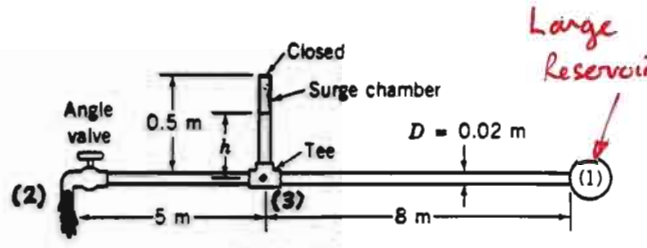

FIGURE P8.77
8.77 When the valve is closed the pressure throughout the horizontal pipe shown in Fig. P8.77 is 400 kPa, and the water level in the closed surge chamber is  $h = 0.4$  m. If the valve is fully opened and the pressure at point (1) remains 400 kPa, determine the new level of the water in the surge chamber. Assume the friction factor is  $f = 0.02$  and the fittings are threaded fittings.